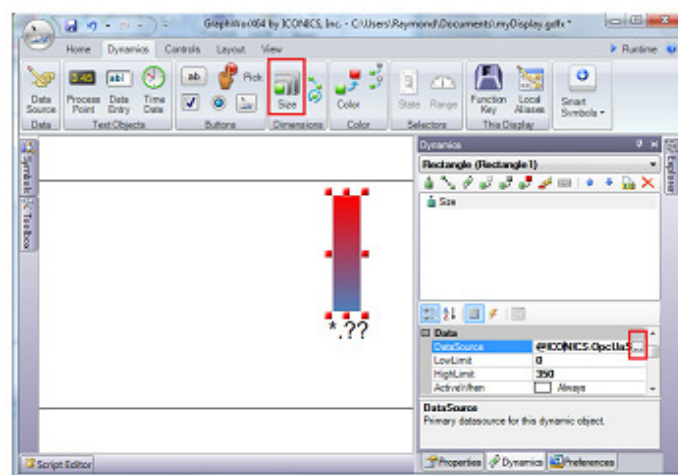

Figure 6 - Adding the Size Dynamic to the Rectangle Object
6. Select the **Rectangle** button in the Shapes section; hold the left-mouse button down while you drag the mouse to draw a rectangle similar to Figure 6.